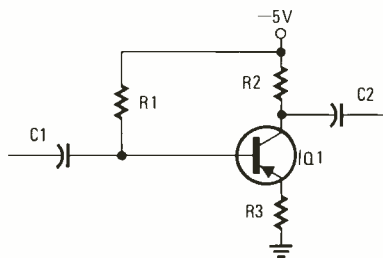

FIG. 9
2. **Correct answer is "b."** The base voltage of the circuit in Fig. 9 is determined primarily by the size of R1 and the small amount of emitter-base current.
3. **Correct answer is "d."** In Fig. 9 a current through R3 (and therefore R2) of 2 mA would give a voltage drop across R2 of only 1 volt under normal operating conditions. Therefore, the circuit has a problem which